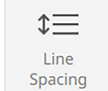

Fig. 41
8. Drag the design to the left in the Design Altering Area, so that the space between the leaves fits around the lettering (Fig. 41).